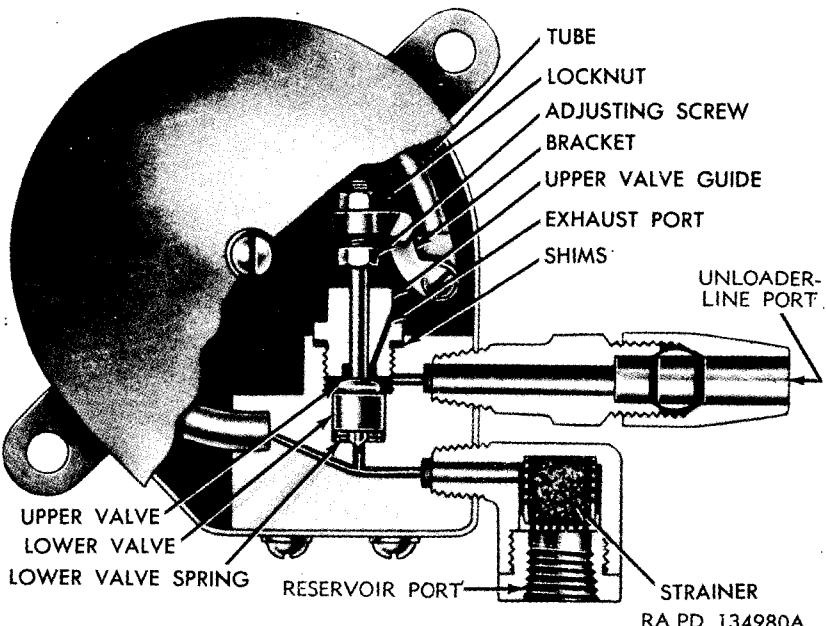
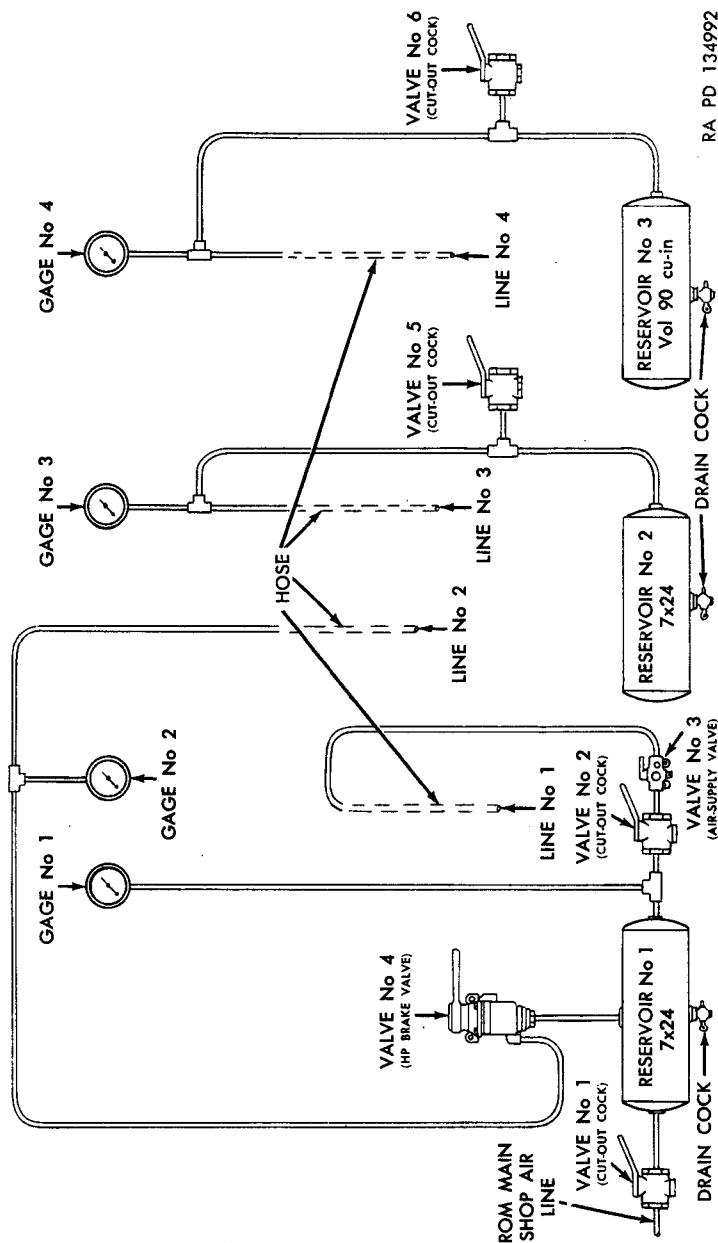

Figure 59. Sectional view of governor.
Figure 71. Piping diagram of test bench.
(fig. 59)
(3) If governor is still in the case, remove cover and case (par. 55).
(4) Before connecting governor to test stand, the tube must be tested for leakage. Connect an air hose to the reservoir port of the governor (fig. 59), apply approximately 50 pounds pressure and submerge governor in water. Watch for air bubbles around the soldered joint between body and tube and at end of tube. No leakage is permissible.
(5) Remove all traces of water and connect line 1 (fig. 71) of the test bench to reservoir port of governor (fig. 59).
(6) Metal tubing $\frac{3}{8}$ -inch diameter and 18 inches long, with one end sealed, is to be installed at the unloader-line port of the governor (fig. 59).
c. *Governor Cut-Out Test and Adjustment.* Place valve 4 (fig. 71) in the released position. Open valves 1, 2, and 3 (fig. 71 and b(2) above) and observe gage 1. Note at what pressure the governor cuts out. The governor must cut out between 100 and 105 pounds pressure. The governor will be in the cut-out position when the tube moves upward or when the metallic click of the upper valve seating itself is heard. Cut-out pressure is raised by loosening the lock nut and turning the adjust-
ing screw (fig. 59) clockwise. Cut-out pressure is lowered by turning the adjusting screw (fig. 59) counterclockwise. If adjustment is made, tighten lock nut (fig. 59) before again checking cut-out pressure.
d. Test Upper Valve Seat. Coat the exhaust port, located in the upper valve seat, with soap suds to detect leakage of the upper valve (fig. 59). Leakage should not exceed that required to produce a 1-inch soap bubble in 3 seconds.
- (1) Close valve 1 (fig. 71) and reduce pressure in reservoir 1 (fig. 71) by placing handle of valve 3 (fig. 71) to the extreme clockwise position.
Note. When the valve handle of the (air supply) valve No. 3 (fig. 71) is turned to its extreme clockwise position the existing reservoir pressure is applied to the governor while the reservoir is discharging through the valve.
- (2) Observe gage 1 (fig. 71) and note at what pressure the governor cuts in. The governor must cut in between 80 and 85 pounds pressure. The governor will be in the cut-in position
when air is heard escaping at the exhaust port for a brief moment. Cut-in pressure is raised or lowered by removing or adding one or more shims beneath the upper valve guide (fig. 59).
f. Test Lower Valve Seat. After the governor has cut in, open valve 3 (fig. 71). Coat the exhaust port with soap suds to detect leakage of the lower valve. Leakage should not exceed a 1-inch soap bubble in 3 seconds.
h. Disconnect Governor. Turn the handle of valve 3 (fig. 71) to the extreme clockwise position and disconnect governor. Remove metal tubing from unloading port and assemble governor (par. 57).
- (1) Coat exhaust port with soap suds. With valve in fully released position, leakage must not exceed a 1-inch soap bubble in 1 second.
- (2) Coat exhaust port with soap suds. With valve fully applied, leakage must not exceed a 1-inch soap bubble in 1 second.
- (3) No leakage is permissible in any other part of valve.
- (4) Valves showing excessive leakage must be rebuilt.
a. General. All rebuilt brake valves must be tested before being returned to service. Although such tests can be made by improvising necessary connections, it is advisable to prepare a test bench at which all specified tests may be made quickly and conveniently. A piping diagram of a suitable test bench is shown in figure 71.
b. Test Preparation (fig. 71). When a test bench similar to that shown in figure 71 is used, begin all tests by positioning the valves as follows:
- (1) Connect line 1 (fig. 71) to reservoir port (of brake valve) and line 4 (fig. 71) to one brake chamber port of brake valve being tested (figs. 72, 87, 96, 103, and 107). If the brake valve has multiple ports, install plugs in other brake chamber ports. Place valve 4 (fig. 71) in released position and close valve 6.
- (2) With normal pressure in reservoir No. 1 (fig. 71), apply and release brake valve several times to insure proper seating of inlet and exhaust valve.
- (3) With brake valve in released position, coat exhaust port with soap suds to detect inlet valve leakage.
- (4) With brake valve half-way between released and fully applied position, coat exhaust port with soap suds to detect exhaust valve leakage.
- (5) With brake valve in fully applied position, coat exhaust port with soap suds to detect exhaust valve leakage.
- (6) Leakage in (3), (4), and (5) above must not produce a soap bubble larger than 1-inch within 1 second.
- (7) Coat entire valve with soap suds and place in fully applied position to detect casting leakage. No leakage is permissible.
- (8) Observe gage 4 (fig. 71) and note that the first movement of brake valve lever or treadle, after slack is taken up, toward applied position causes brake to deliver 4 to 6 pounds pressure.
- (9) Observe gage 4 (fig. 71) and operate valve from the released to the fully applied position in steps. Note if with each step a corresponding increase of pressure is obtained.
- (10) Operate the valve in steps from the applied position. Observe gage 4 (fig. 71) and note if pressure decreases in corresponding steps.